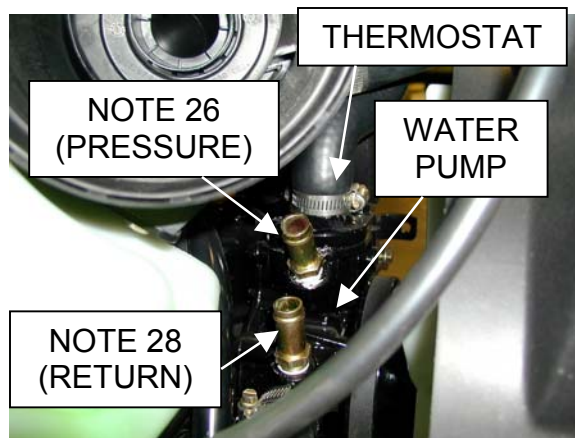
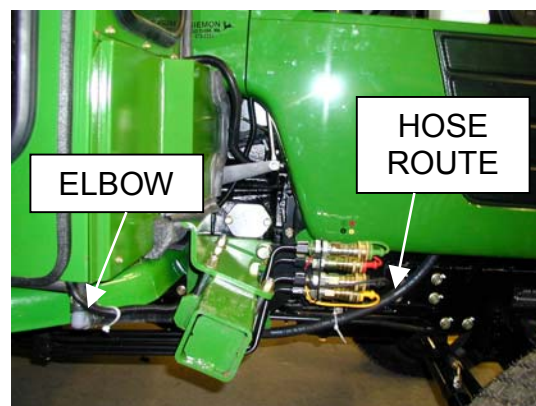

Figure 7
Figure 8
- 28) On models; (See Figure 7).
- Install (1) #3-17756, 3/8-19 BSPT to 5/8" hose nipple.
- Install (1) #3-12119, 3/8-18 NPT to 5/8" hose nipple.
- 29) On models; (See Figure 7).
- Install (1) #3-17757, 3/8-19 BSPT to 5/8" hose nipple.
- 30) Locate the heater hose, (2) 90-degree plastic elbows and (6) 5/8" hose clamps that come with the kit.
- 31) Install (1) elbow #3-10282, measure and cut 5/8" heater hose from right side of cab to the hot-pressure nipple on the top of the water pump, just installed. See Figure 8.